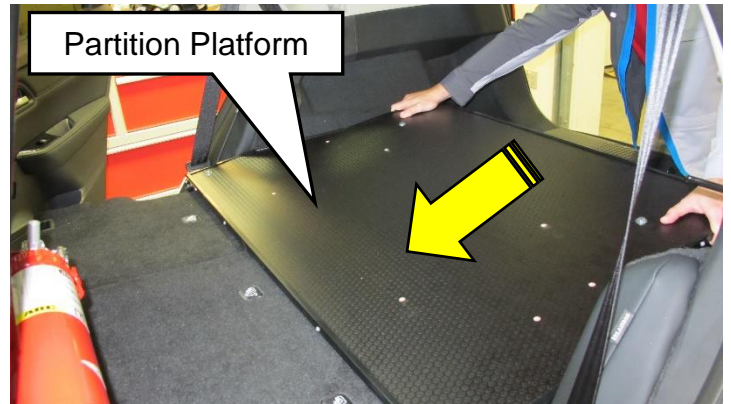

Figure 18
- Install the partition platform in the rear of the vehicle through the rear door opening (Figure 18)